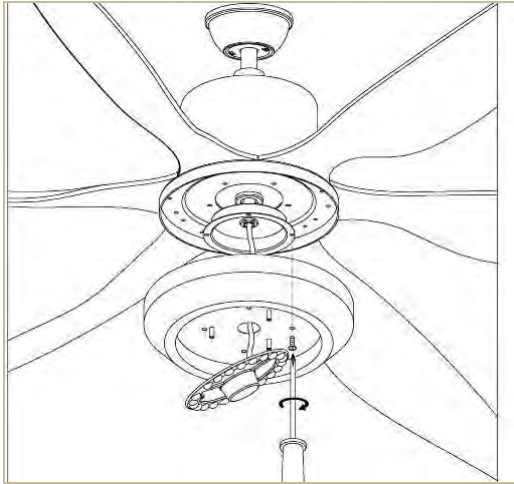

Fig 14
- (3) Remove the screws from the flange, and then secure the light kit to the flange using the screws. (Fig 14)